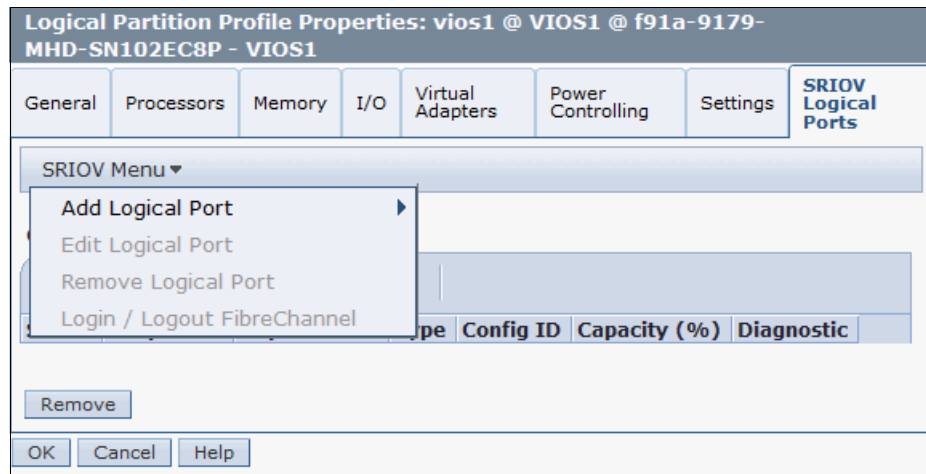

Figure 4-23 Virtual I/O partition profile
1. Open the partition profile for modification and navigate to the **SR-IOV logical ports** tab in the Logical Partition Profile properties panel (Figure 4-23).